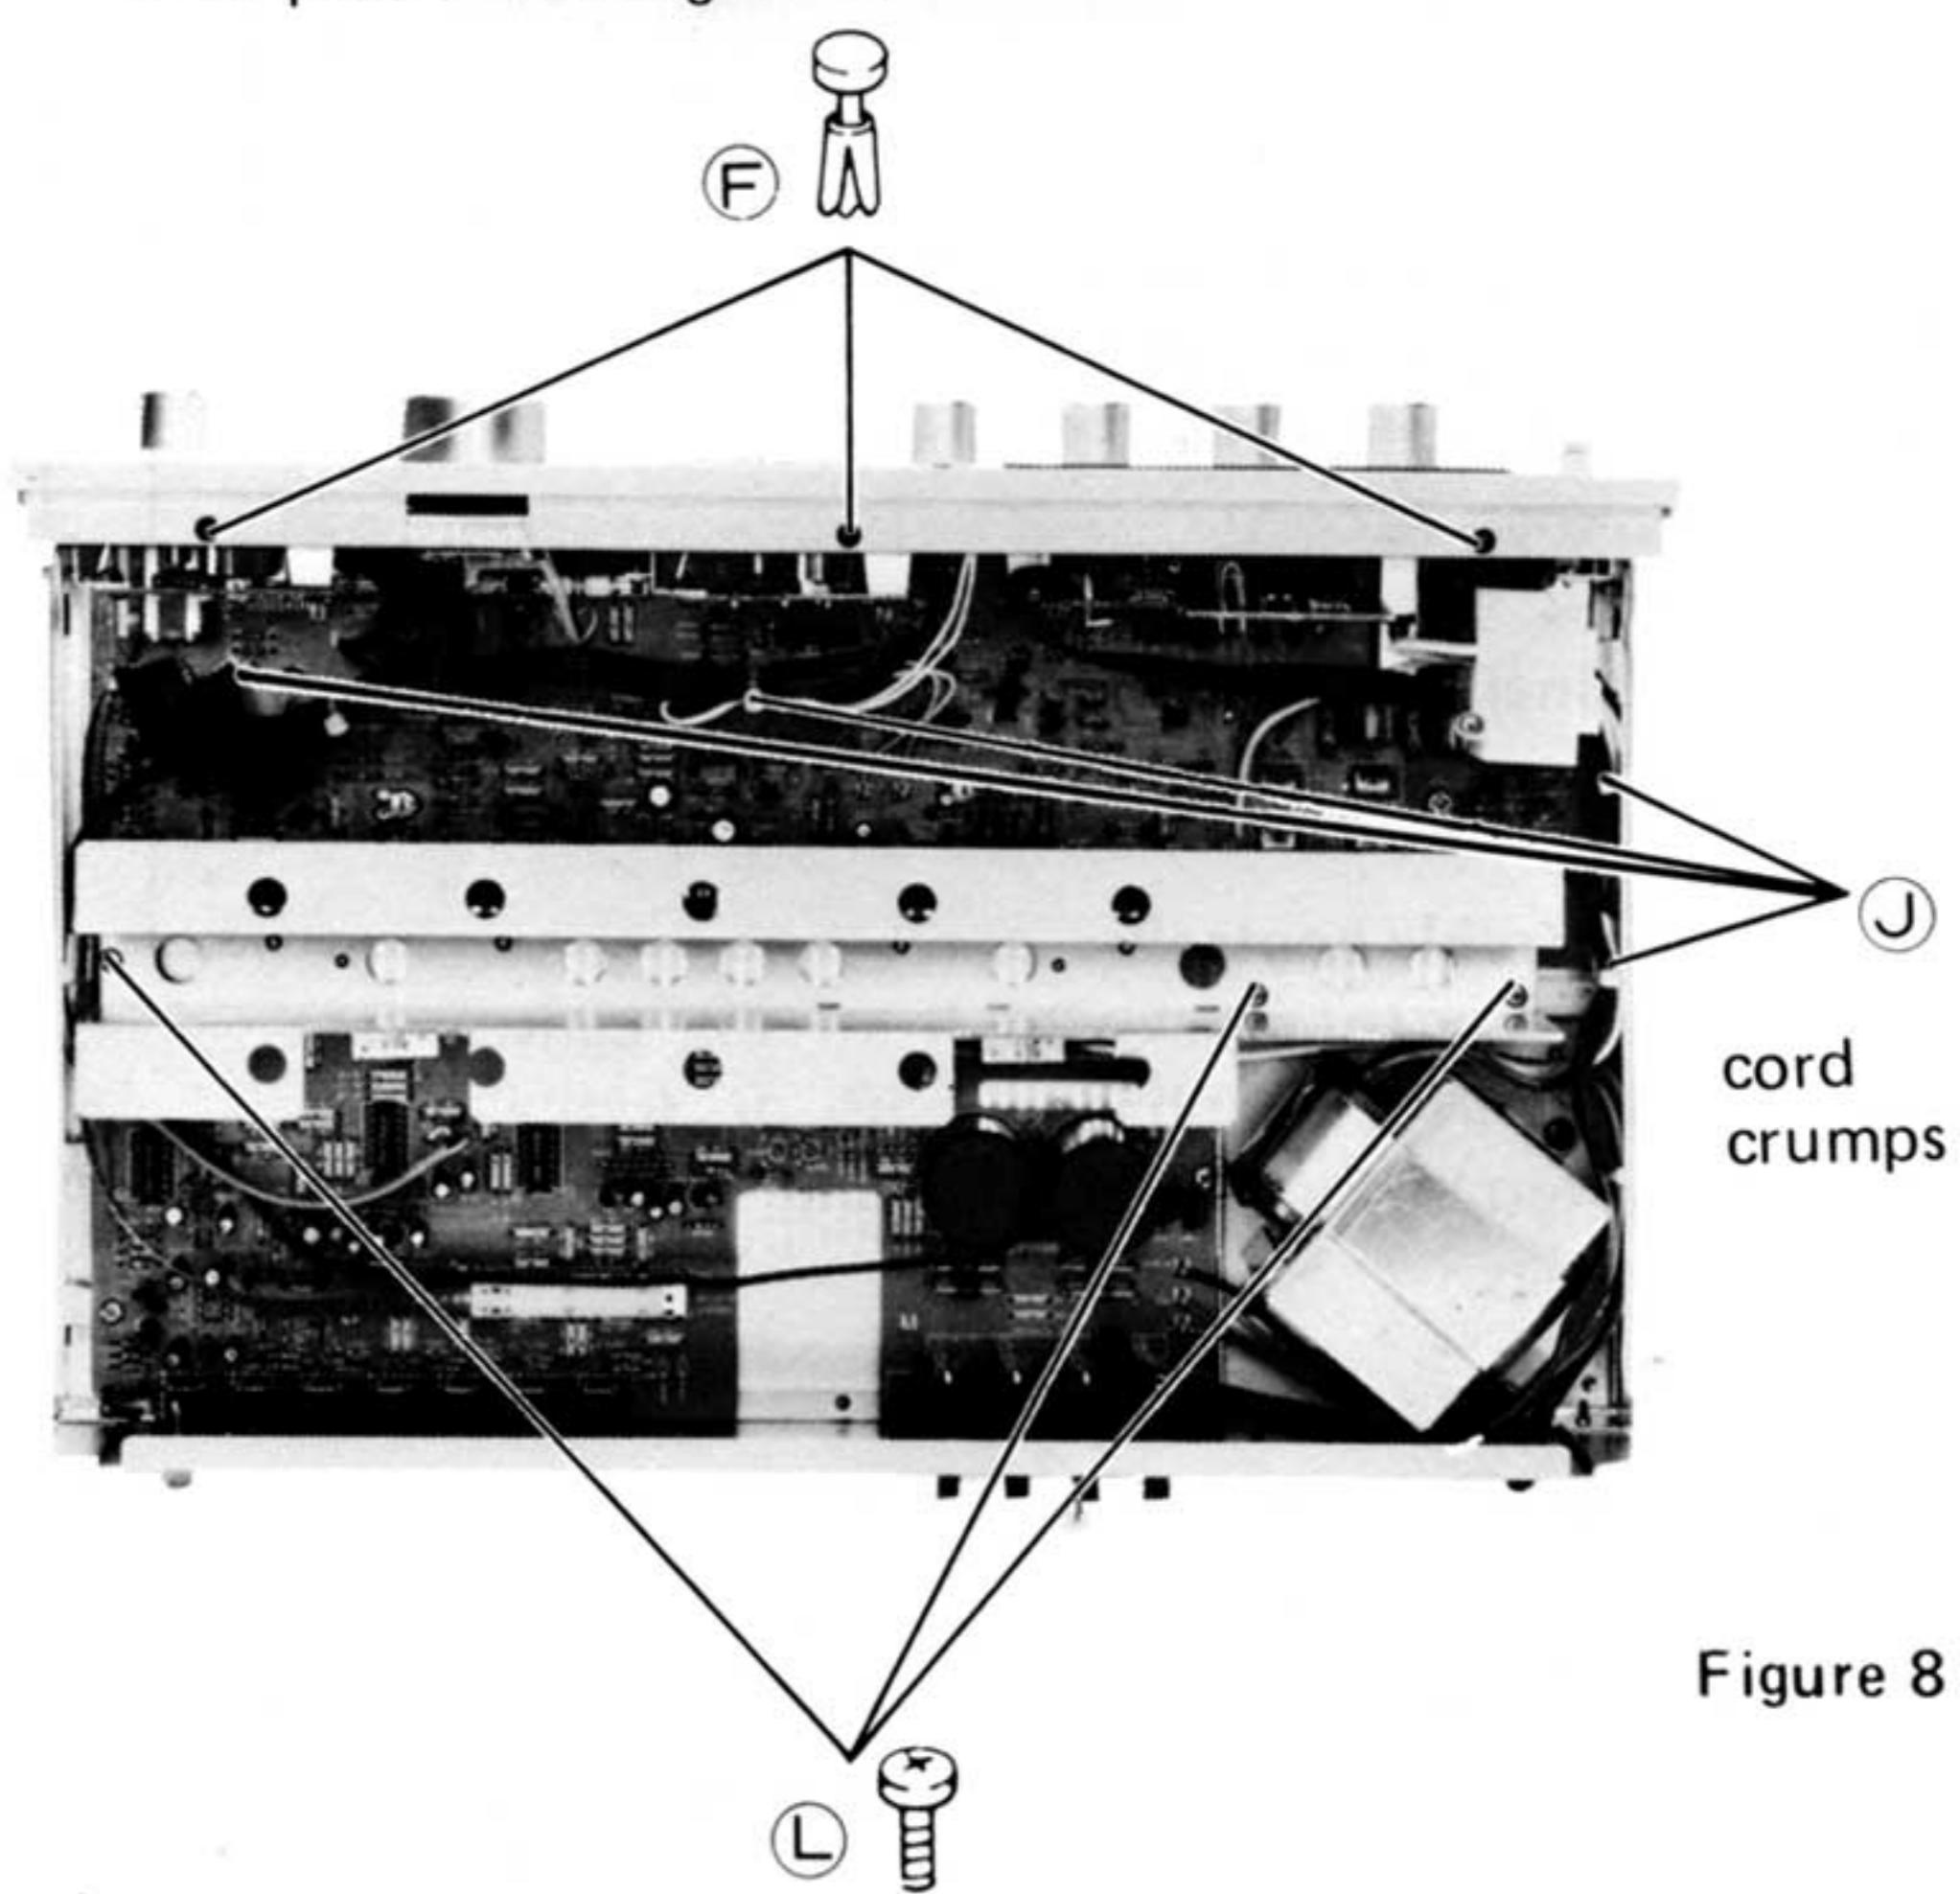

Figure 8
- 3 Remove three plastic rivets **F** ($3\phi \times 4.5\text{mm}$) holding the front panel. See Figure 8.
- 1 Remove four cord crumps **(J)** holding cords connected to the each P.C. Boards. See Figure 8.
- 1 Remove three screws **(L)** ($3\phi \times 8\text{mm}$) holding Heat sink. See Figure 8.